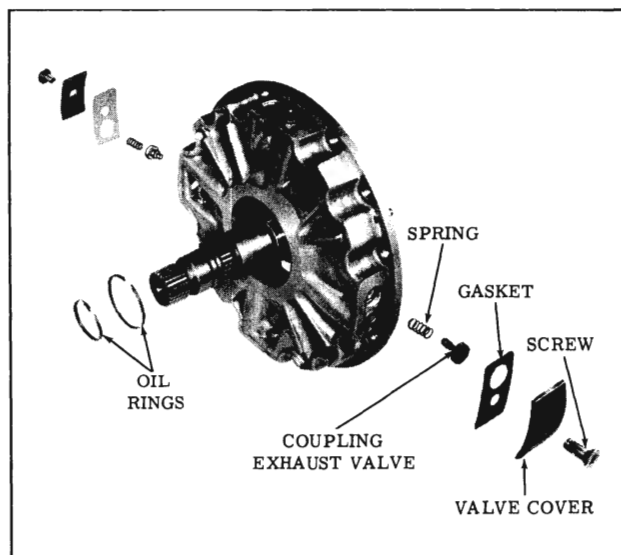

Fig. 3-264 Torus Cover Assembly
3. Remove the two exhaust valves and springs. (Fig. 3-264)